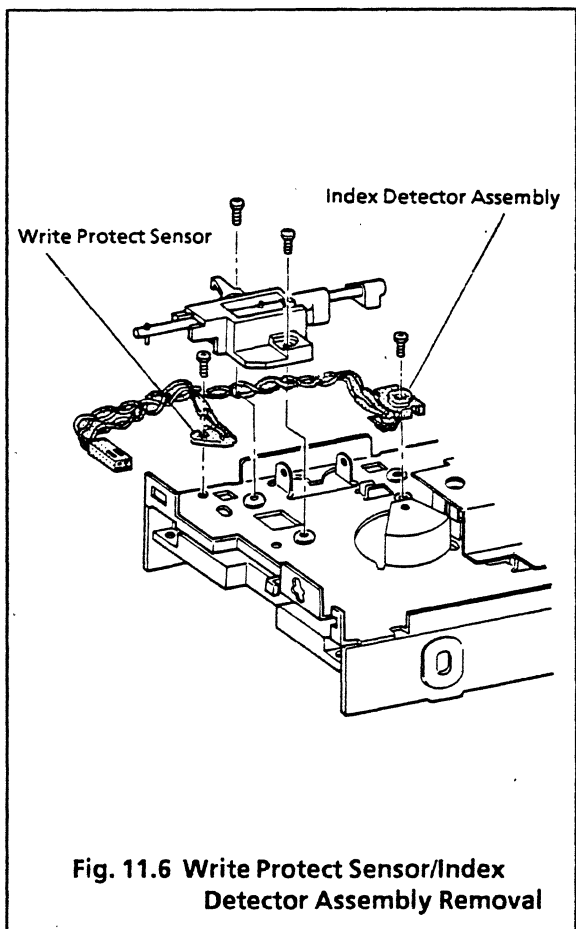

Fig. 11.6 Write Protect Sensor/Index Detector Assembly Removal
11.6 Write Protect Sensor/Index Detector Assembly Removal and Installation (See Fig. 11.6)